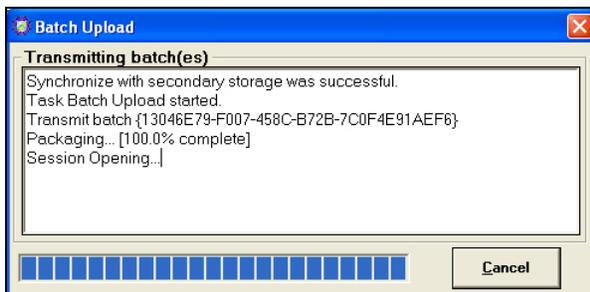

Figure 4.15
2. Click the Upload button. The batch upload transmission begins in a new window as in Figure 4.15.